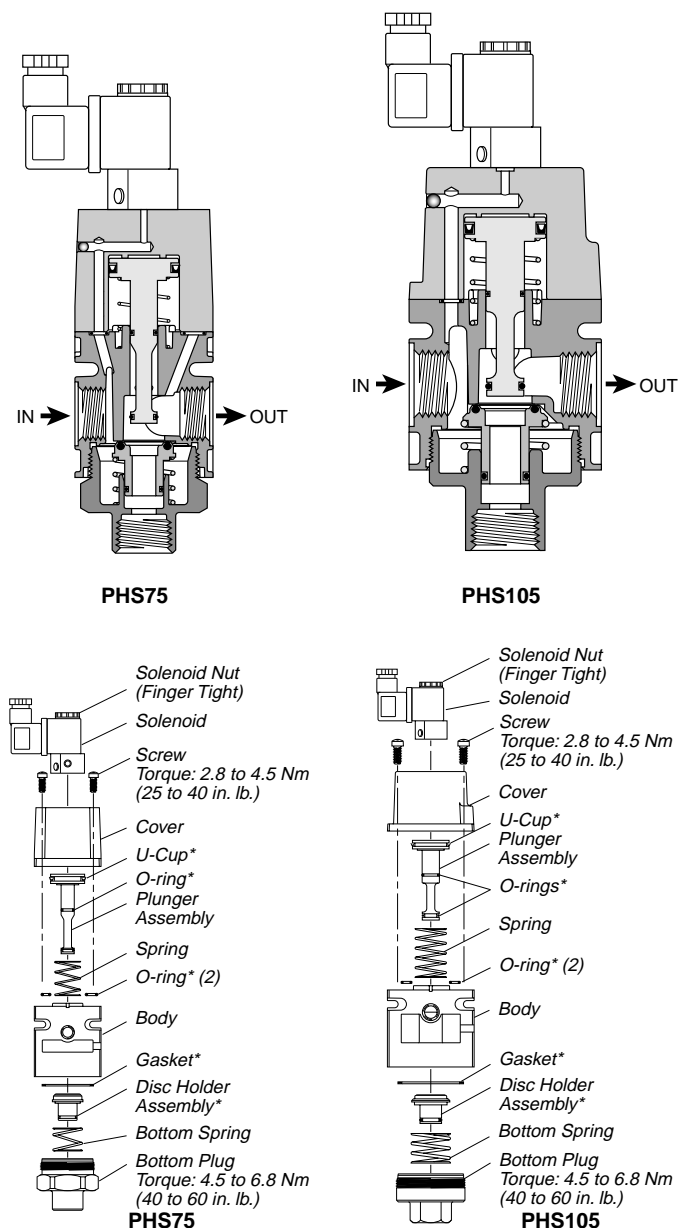

Figure 1
5. Install Gasket into Body. Then install Disc Holder, Bottom Spring and Bottom Plug into Body. See Figure 1 for torque value.
6. Install Plunger with Seals into the Body. Install two O-rings between Body and Cover (make sure air passages are aligned properly), install four Screws and tighten per Figure 1.